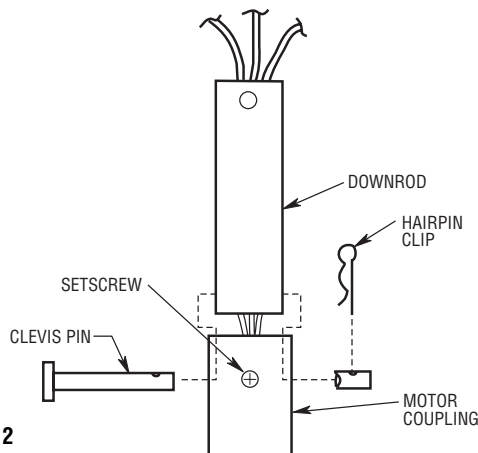

Figure 2
2. Loosen setscrew in motor coupling if necessary. Separate, untwist and unkink the three 80" motor leads. Route the motor lead wires through the downrod. Align the clevis pin holes in the downrod with the holes in the motor coupling. Install the clevis pin and secure with the hairpin clip (Figure 2). The clevis pin must go through the holes in the motor coupling and the holes in the downrod. Be sure to push the straight leg of the hairpin clip through the hole near the end of the clevis pin until the curved portion of the hairpin clip snaps around the clevis pin. The hairpin clip must be properly installed to prevent the clevis pin from working loose. Pull on the downrod to make sure the clevis pin is properly installed.
It is critical that the clevis pin in the motor coupling is properly installed and the setscrew securely tightened. Failure to verify that the pin and setscrew are properly installed (as shown in Figure 2) could result in the fan falling.